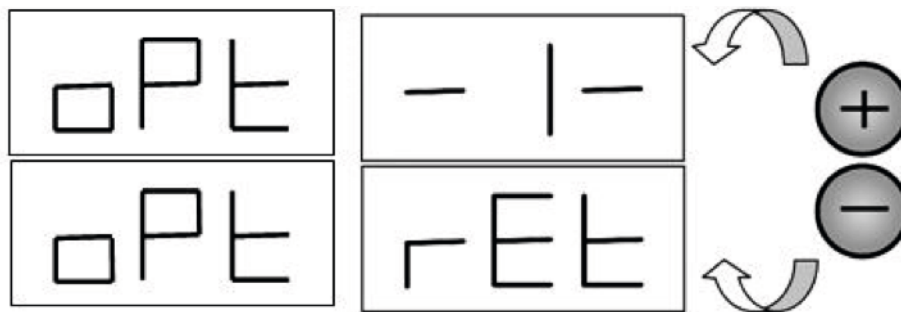

Figure F5.1. Access to the Optimisation programme
1. Press [F+P4]. The display will show the options shown in figure F5.1. Press [P4] or [P5] and choose the option oPt-1- to continue, or the option oPt rEt to return to the operating programme. Press [F+P4] to confirm the chosen option;